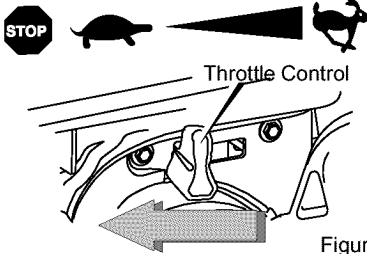

Figure 18
1. To stop the engine, move the throttle control lever to the “SLOW” position, then move to the “STOP” position (see Figure 18).